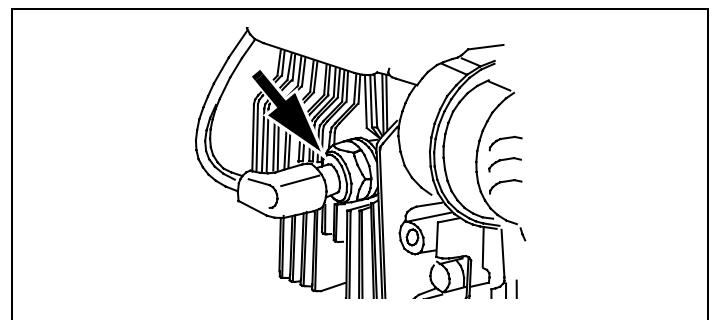

Figure 37. Typical Spark Plug Connection
14. Carefully re-connect spark plug wire to spark plug. See Figure 37.